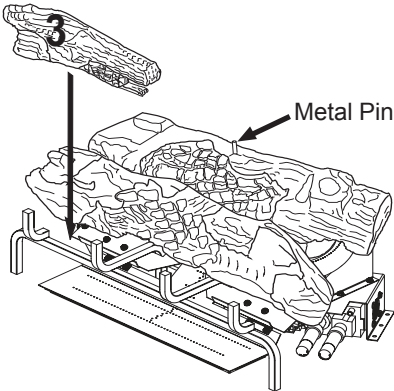

Figure 33- Installing Log # 3
3. Place the front left log (#3) onto the base assembly between the middle log and the grate. The back of the front left log will rest against the front of the middle log. The notch in the end of the front left log will fit around the grate bar. See Figure 33.